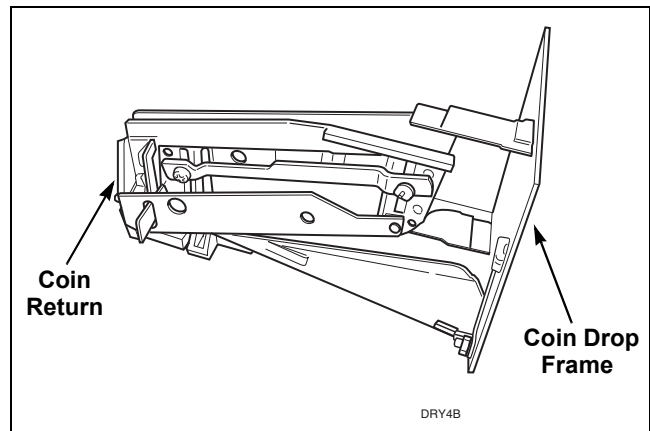

Figure 21
- Remove coin return from coin drop frame. Refer to *Figure 21*.